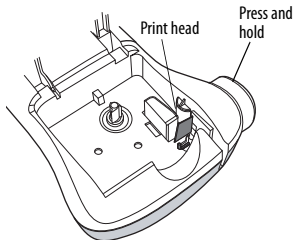

Figure 6
2. Press and hold the cutter button to expose the cutter blade. See Figure 6.
3. Gently wipe the padded side of the tool across the print head. See Figure 6.